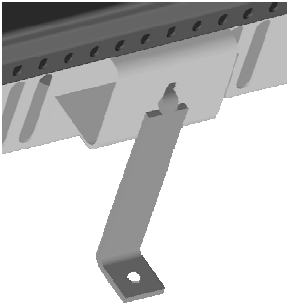

Fig 4.
4. Install the bracket onto the heater using the vacated wheel assembly bracket, as shown in Fig. 4. Insert a screw into the hole of the bracket and fix the screw into the remaining rawl plug (C).